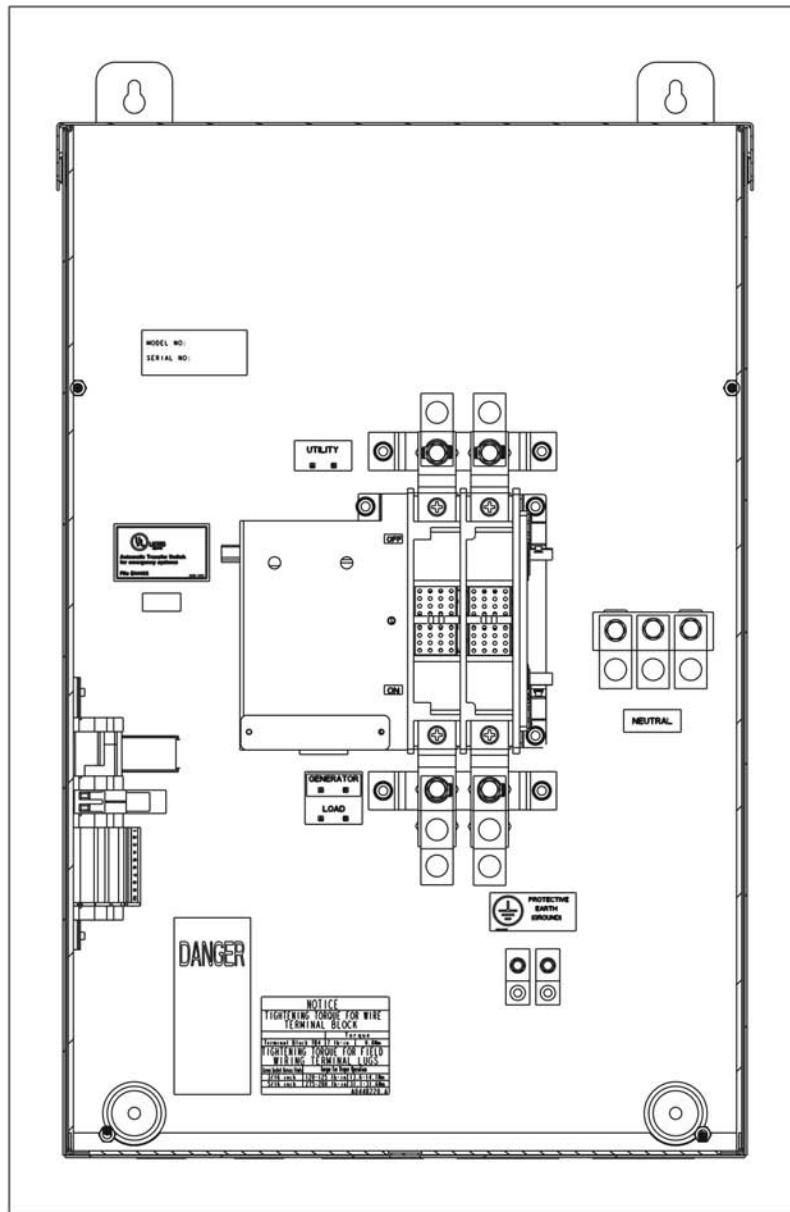

FIGURE 1. NON-SERVICE ENTRANCE TRANSFER SWITCH (WITH DOOR PANEL REMOVED)
- For non-service entrance models, a model and serial number label is located on the inner back of the enclosure on the upper left side (see Figure 1).